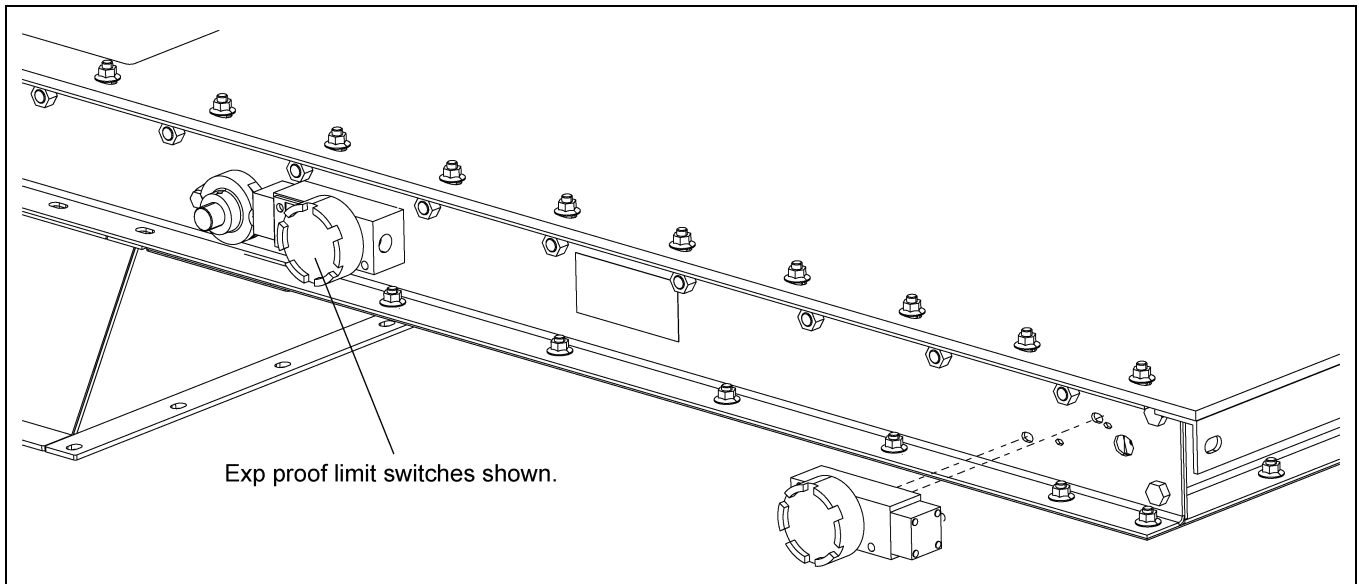

Figure 3I
1. In-line switches are installed on outside of gate frame on the same side. (See Figure 3I.)